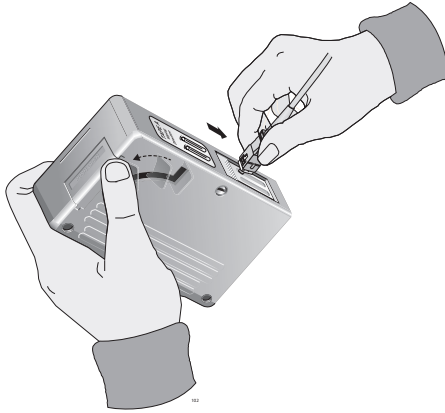

Figure 25. Rubbing the Ferrule Tip on the Cleaning Surface
1. With one hand, hold the cartridge cleaner and push the lever on the cleaning cartridge in the direction of the arrow to expose the cleaning surface, as shown in Figure 25.
2. Place the ferrule tip on the exposed cleaning surface and rub the ferrule in a downward direction, as shown in Figure 25.